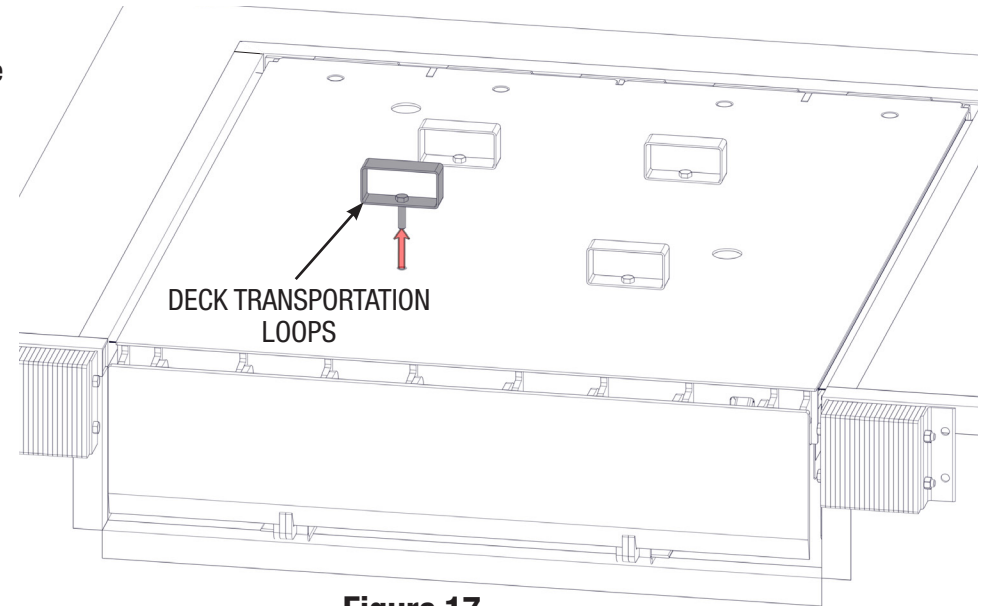

Figure 17
3. Remove the four deck transportation loops, as shown in **Figure 17**.